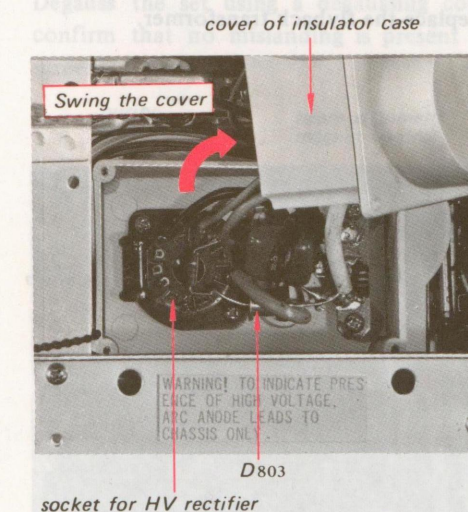

Fig. 2-33. Removal of the cover of high-voltage insulator case
5. Swing the cover of insulator case as shown in Fig. 2-33. This permits access to the components of the convergence circuit and the socket of the rectifier tube.